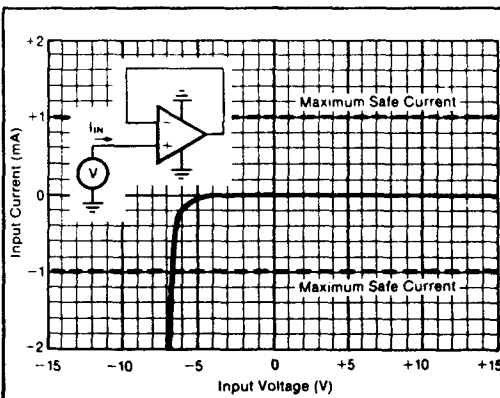

FIGURE 2. Input Current vs Input Voltage with  $\pm V_{cc}$  Pins Grounded.
- (1) Packages must be derated based on  $\theta_{JC} = 150^\circ\text{C/W}$  or  $\theta_{JA} = 300^\circ\text{C/W}$ .
- (2) For supply voltages less than  $\pm 18\text{VDC}$  the absolute maximum input voltage is equal to  $+18\text{V} > V_{IN} > -V_{CC} - 6\text{V}$ . See Figure 2.
- (3) Short circuit may be to power supply common only. Rating applies to  $+25^\circ\text{C}$  ambient. Observe dissipation limit and  $T_J$ .